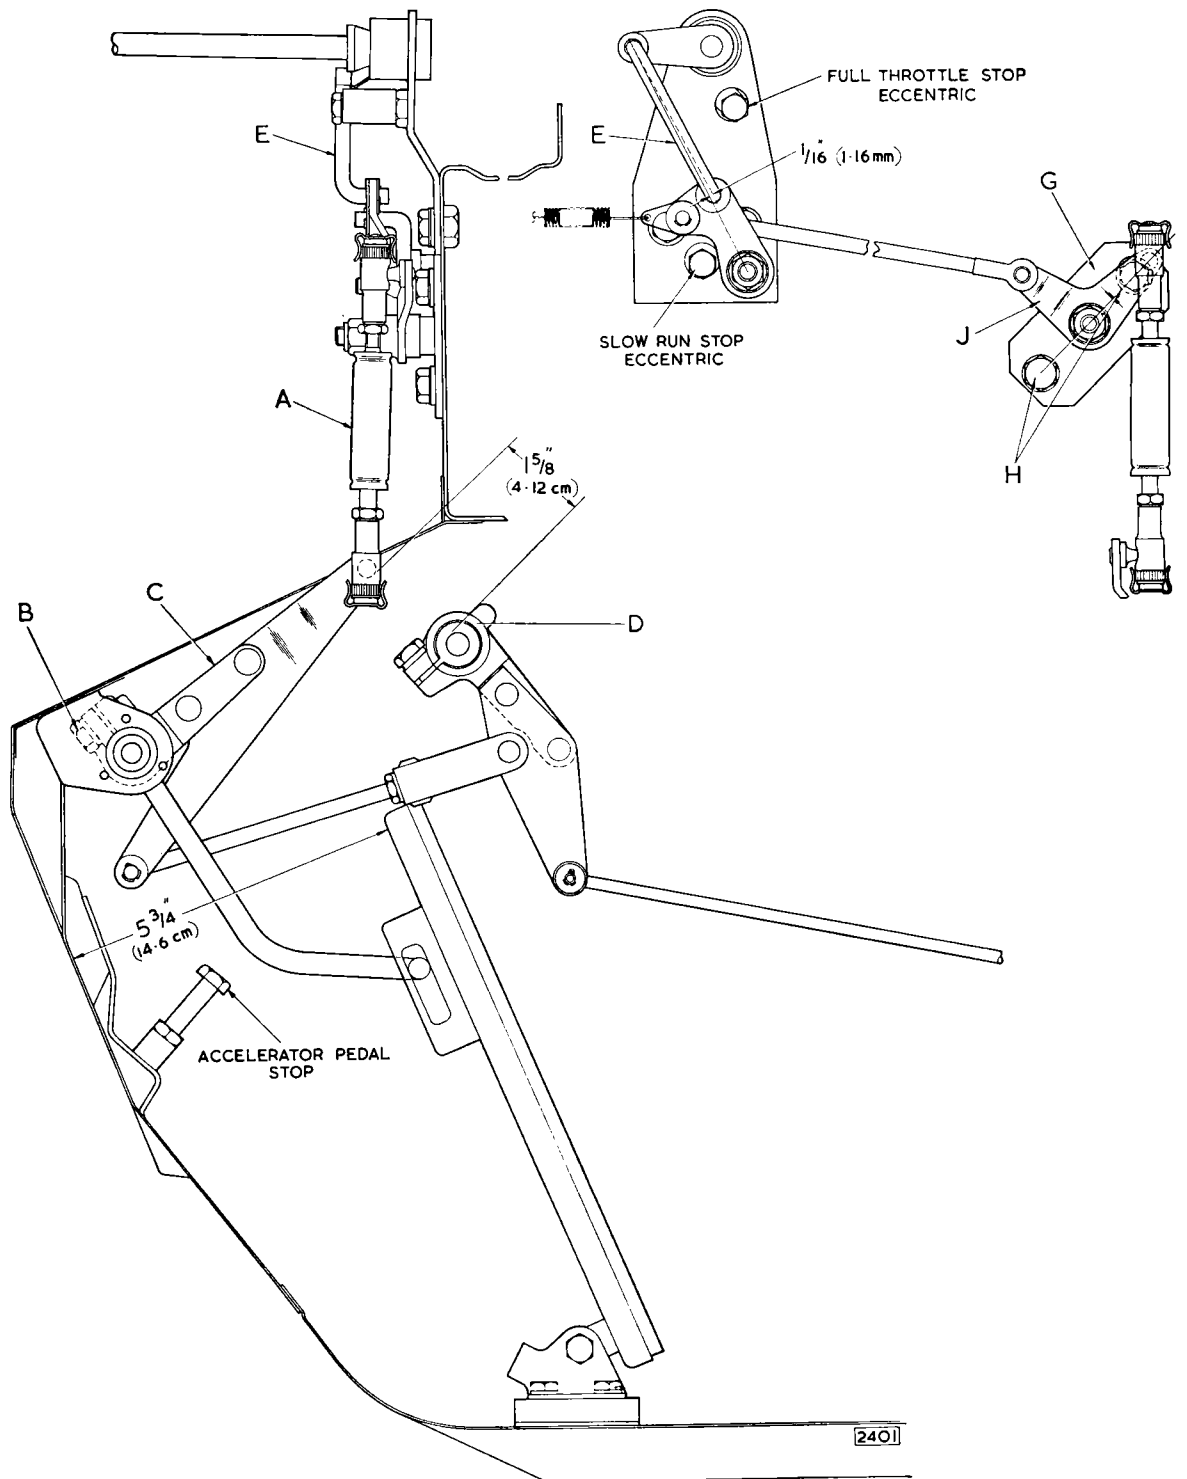

Fig. 17. Accelerator linkage—Left-hand drive
5. Adjust the slave bell crank fulcrum bracket (G, Fig. 17) on the left-hand bulkhead by slackening off the two mounting setscrews (H). Position the bracket so that the slave bell crank (J) is immediately in front of the fulcrum bracket upper setscrew (H).